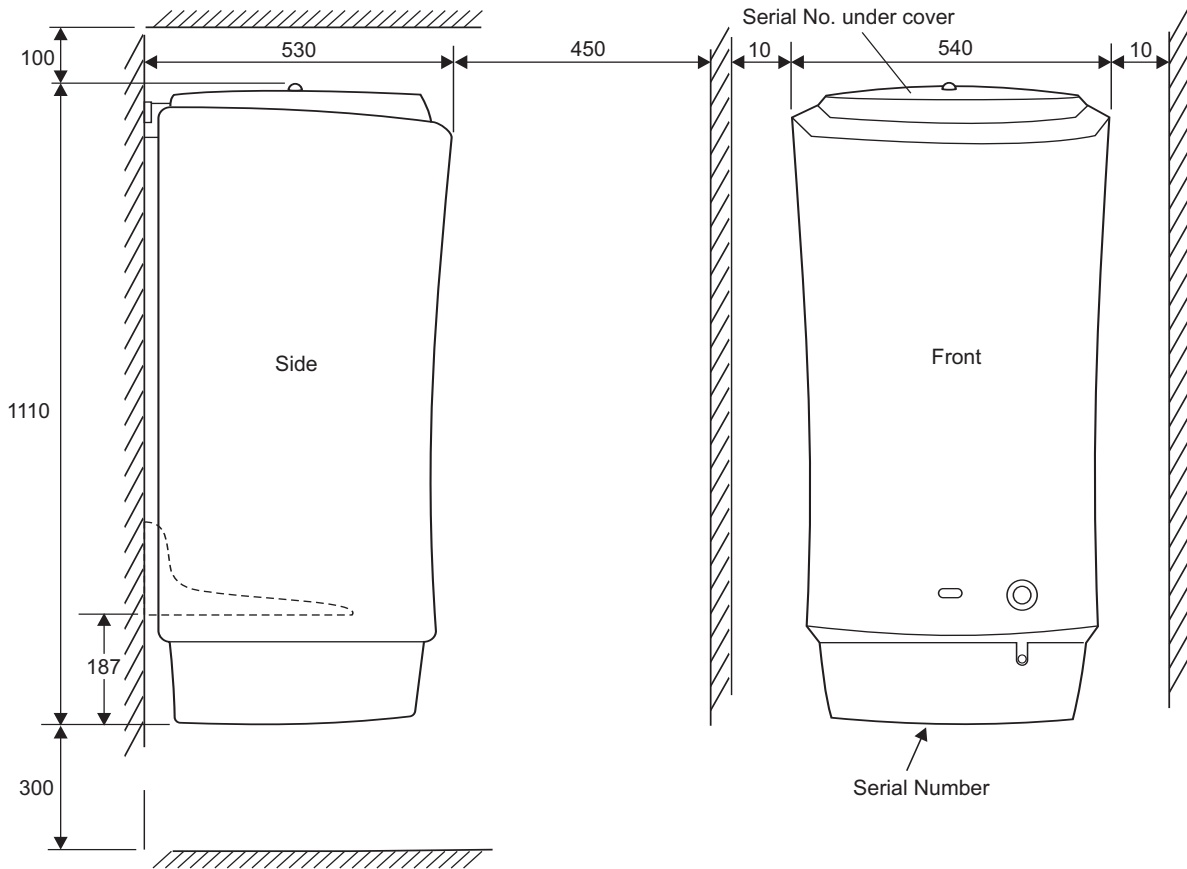

Fig. 5a
3.4 SOLAR CYLINDER INFORMATION - Figs. 5a and 5b
The dimensions of the cylinder and clearances required for servicing are shown in Fig. 5a.